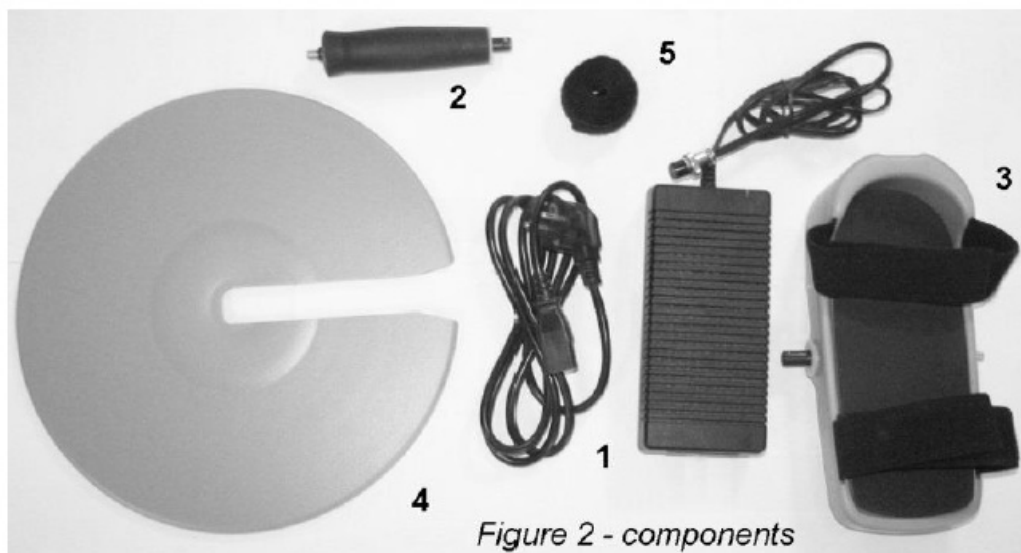

Figure 2 - components
**Primary components (Figure 2):**